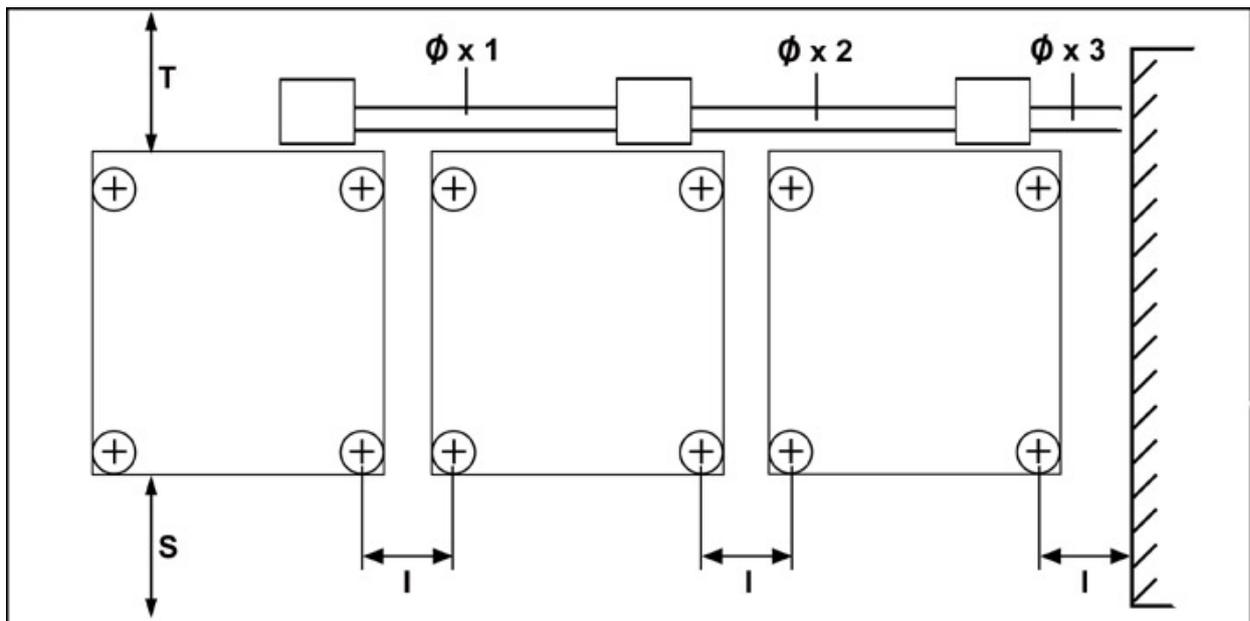

Fig. 2.8
For installations with more than one washer, refer to additional dimensions in section 2.6.3. & figure 2.8.
The minimum distance between adjacent machines and the user and maintenance areas (values **I**, **S** and **T** of Figure 2.8) are specified on the table below.
**Positioning conditions** (Fig. 2.8)
Diameter of **B** manifold: refer to table on section 2.6.3 and Figure 2.8.